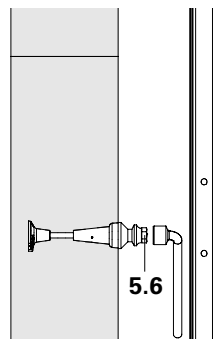

Fig. B1.33
3. Loosen Scaffold Mounting Ring and Bolt M24 x 120 (5.6) on the previous concreting segment with socket wrench SW 36 and remove. (Fig. B1.33)